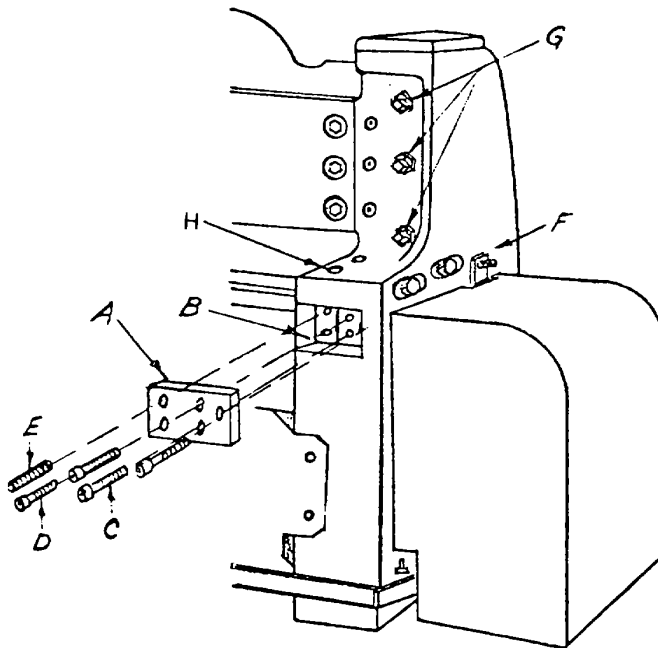

Figure 1
- IX. Gibs are located inside of lqgs at top to provide adjustable bearing surfaces for crosshead ways and are adjusted by means of 3 set screws "G" Fig. 1 with locking nuts. Adjustment too loose will prevent accurate shearing of material. Adjustment too tight will cause crosshead to "freeze". For correct adjustment, bring all set screws "G" to snug tight, set clearance at .002" at top and bottom of crosshead bearing with feeler gauge.